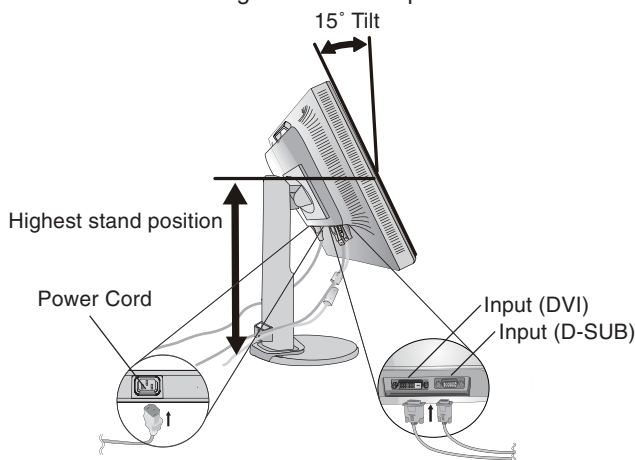

Figure B.1
3. Place hands on each side of the monitor to tilt the LCD panel 15-degree angle and lift up to the highest position (**Figure B.1**).
4. Connect all cables to the appropriate connector on the back of the monitor (**Figure B.1**).